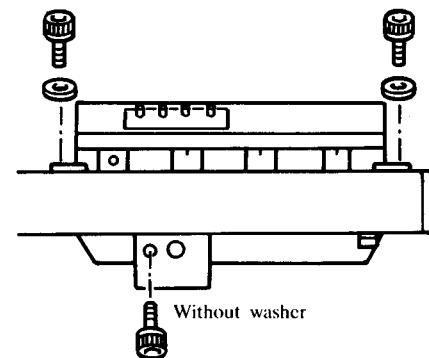

Fig. 9
- (4) Remove the bolt (5×8) and washer for the Belt cover.
- (5) Pull out the Belt cover to the opposite direction of the Motor head.
- (6) Take the Jam sensor (Motor stop sensor), Yarn sensors and plug of Foot switch out of the Motor head.
- (7) Remove the three bolts (5×8) Fixing the Motor head to the Rail. (Refer to Fig. 9)
- (8) While supporting the motor head with your hand, pull it out the rail.